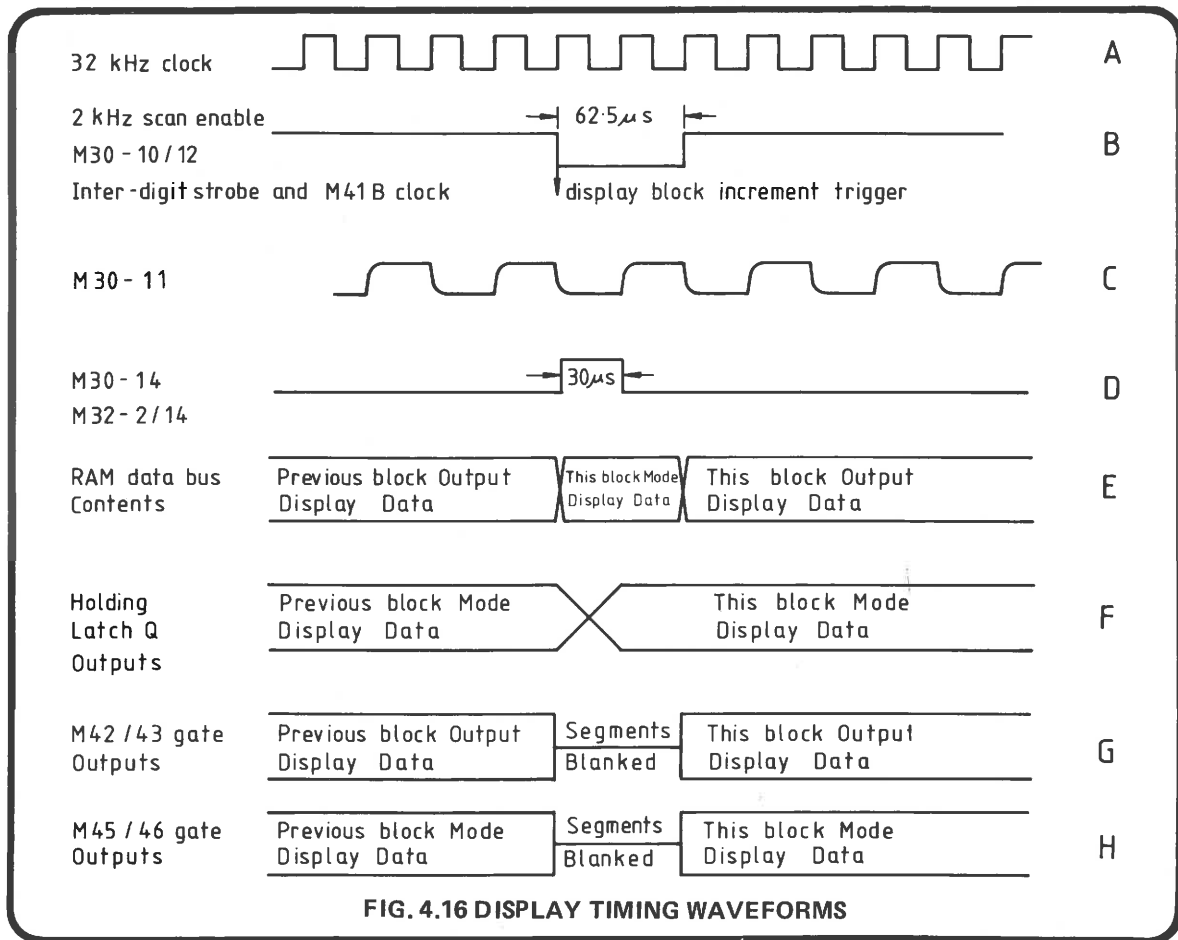

FIG. 4.16 DISPLAY TIMING WAVEFORMS
4.4.4.4 Display Timing (Fig. 4.16)
in M16 for the next byte (Block 6 of both displays) is: Figure "8" (output display) and figure "7" (mode display). The changeover to the next block occurs during the display master timing pulse (Fig. 4.16, Waveform B).